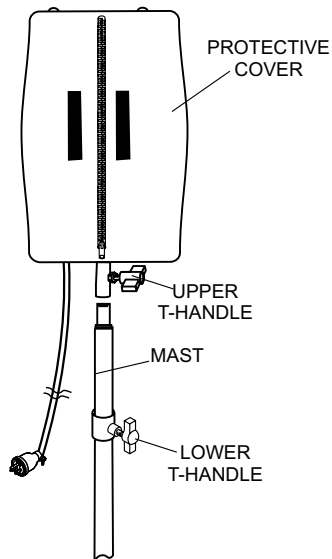

Figure 11. Light Assembly Placement
1. Place balloon assembly (Figure 11) onto mast and tighten Upper T-handle.
2. Using a 19 mm wrench, tighten the locknut securely. See Figure 11.